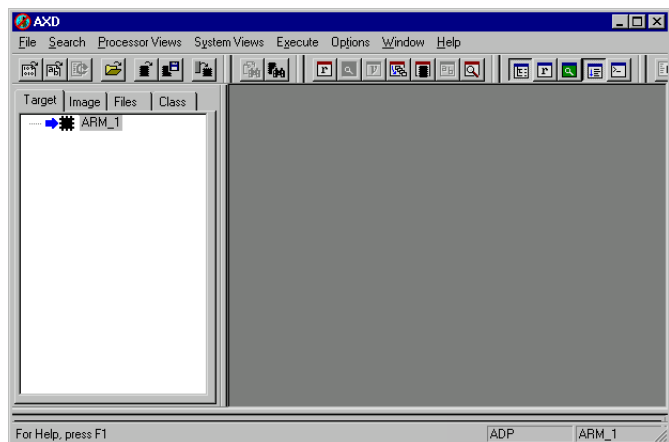

Figure 3-13 Debugger connected to Angel
5. The debugger connects to the target and the status line displays ADP (see Figure 3-13).